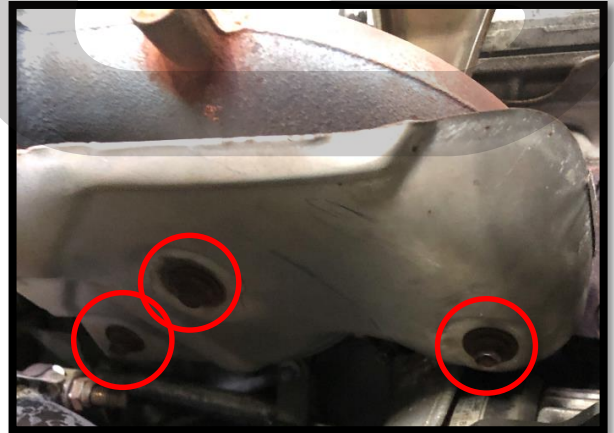

Figure 6b
c) Remove the three 8mm bolts holding the lower manifold heat shield shown with the red circles in **Figure 6b**. Then remove the heatshield.